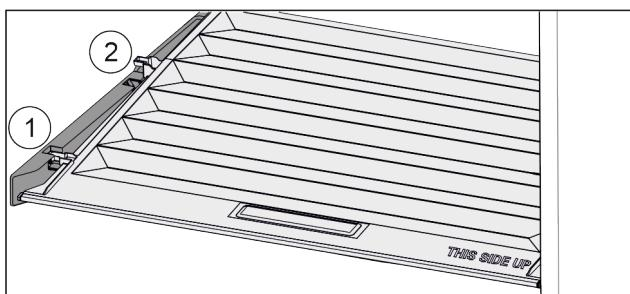

Fig. 43
- Pull the lid up at the front to the opening in the retaining parts Fig. 43 (1).
- Lift from the back and pull it up and out Fig. 43 (2).